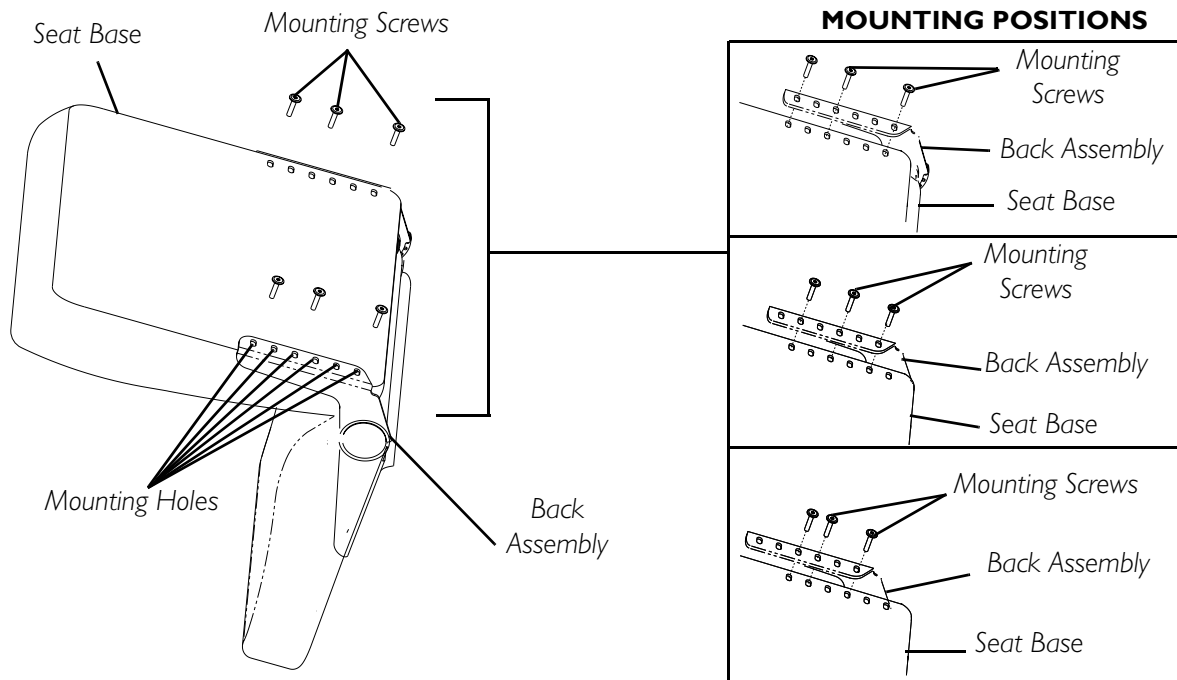

FIGURE 7.3 - ADJUSTING SEAT DEPTH
NOTE: For this procedure, refer to FIGURE 7.3.
4. Adjust back assembly to one (1) of three (3) mounting positions (FIGURE 7.3).
5. Reinstall the six (6) mounting screws securing the back assembly to the seat base. Securely tighten.